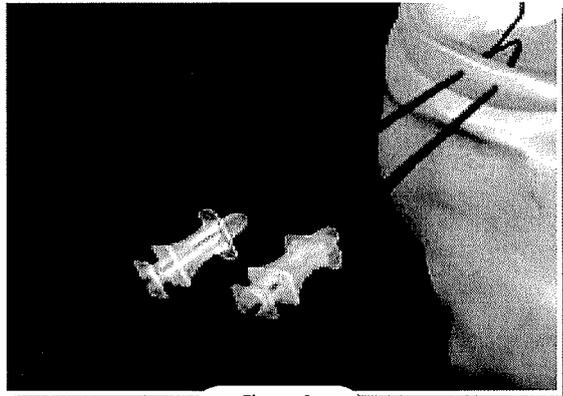

Figure 9
- ∂ Pull back on the loop, capturing the suture material (Figure 9).